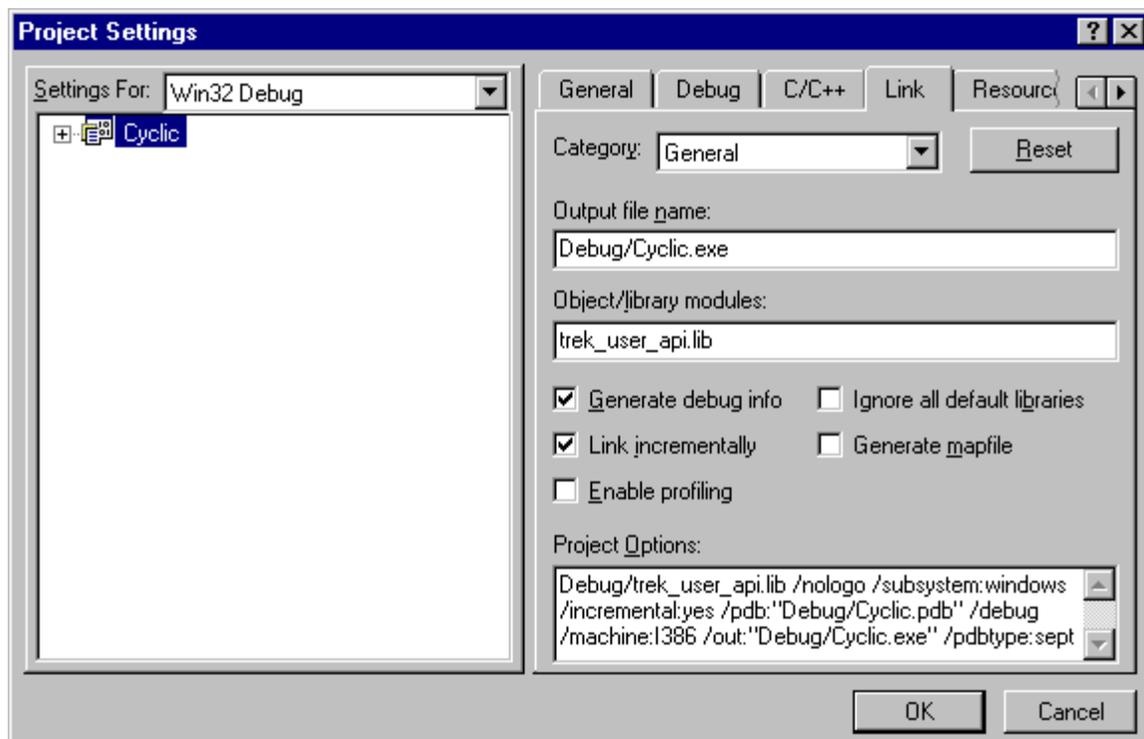

Figure 43 Project Settings Dialog showing reference to TReK API Library.
3. In the Project Settings dialog select the **Link** tab. In the **Object/library modules** field enter the location of the **`trek_user_api.lib`** file. Since you copied the `trek_user_api.lib` file into your project directory you should enter **`trek_user_api.lib`**. Figure 43 shows an example of what your dialog should look like now.